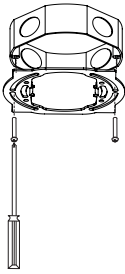

fig. 1
2. Attach the mounting bracket to the J-box using two of the provided screws. Note the fixture's insert tabs should be facing toward the J-box and for 7" and 9" the mounting bracket's hooked ends should be facing down towards the floor once installed. (fig. 1)